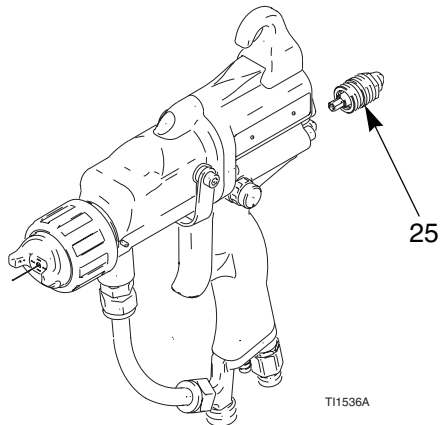

Fig. 17. Fluid Adjustment Valve
2. Remove the fluid adjustment valve (25). It can only be replaced as a complete assembly. See FIG. 17.
3. Screw the valve (25) into the gun handle. Torque to 15-25 in-lb (1.7-2.8 N•m).